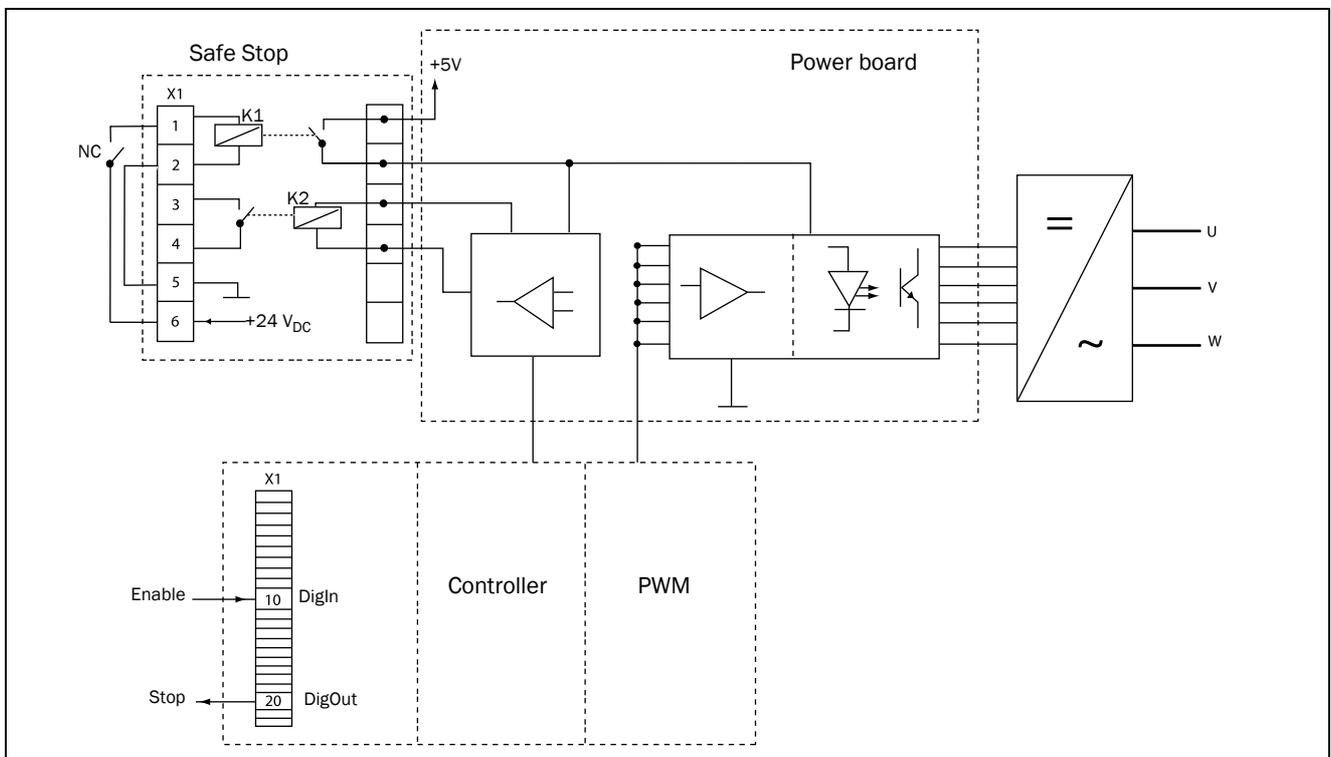

Fig. 161 Safe Stop connection
- "Inhibit" input, terminals 1 (DC+) and 2 (DC-) on the Safe Stop option board should be made active by connecting $24 V_{DC}$ to secure the supply voltage for the driver circuits of the power conductors via safety relay K1. See also Fig. 161.